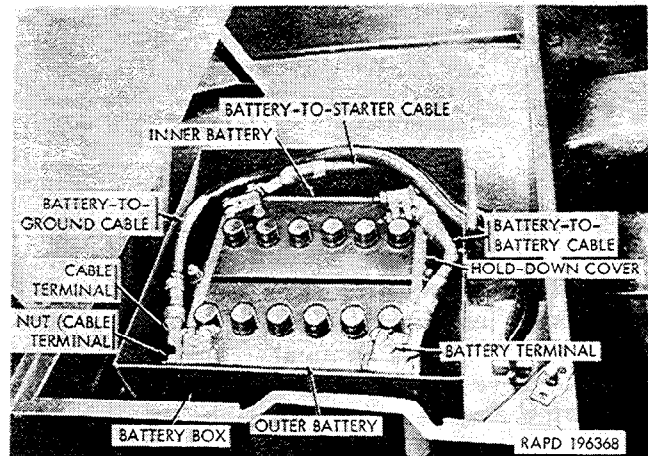
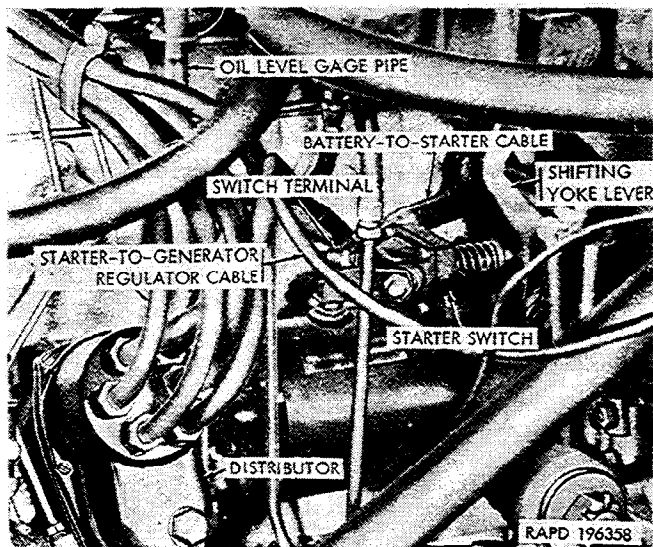

Figure 2-23. Battery box location (all models except early production ambulance truck M43).
Figure 2-24. Starter installed.
(1) Remove the battery-to-ground cable from the negative (—) post of the outer battery (fig. 2-23).
(2) Remove the distributor (para 2-19 a).
(3) Unscrew the oil level gage pipe (fig. 2-24) from the cylinder block, and remove the pipe and gage.
(4) Remove the nut from the starter switch terminal (fig. 2-24) and remove the battery-to-starter cable, starter-to-regulator cable, and the starter-to-slave receptacle cable (if so equipped) from the starter switch terminal.
(3) Connect the battery-to-slave receptacle cable (if so equipped), the starter-to-regulator cable, and battery-to-starter cable to the front terminal of the starter switch (fig. 2-24) and install the terminal nut. Tighten the nut.
(4) Install the oil level gage and gage pipe through the pipe support and screw the pipe into the opening in the cylinder block.
(5) Install the distributor (para 2-19 *b*).
(6) Connect the battery-to-ground cable to the negative (—) post of the outer battery (fig. 2-23).
b. Adjust Starter Pinion. Place the starter in a vertical position and push the shifting yoke lever (fig. 2-23) to the forward (engaged) position. While
(1) Disconnect the battery-to-ground cable from the negative (—) post of the outer battery (fig. 2-23).
(2) Remove the rear splash shield from the left front fender (para 2-180).
(5) Install the left front fender rear splash shield (para 2-180).